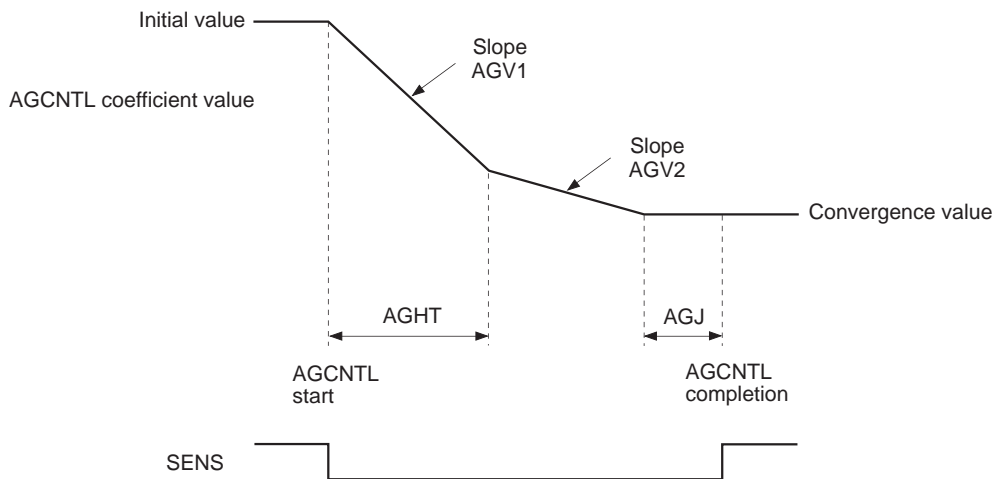

Fig. 5-5.
An example of AGCNTL coefficient transitions during AGCNTL operation with various settings is shown in Fig. 5-5.
**Note)** Fig. 5-5 shows the case where the AGCNTL coefficient converges from the initial value to a smaller value.